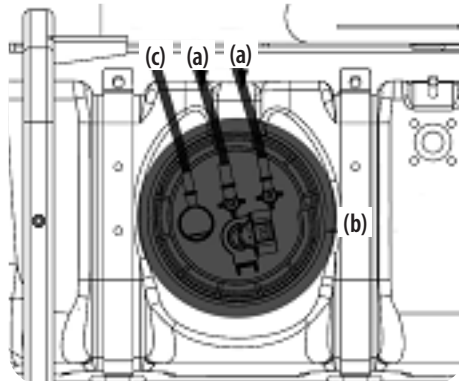

Figure 5-33
3. There are two main lines (a) coming into the primary fuel filter (b) and one vent line (c) leading to the carbon canister. See Figure 5-33.